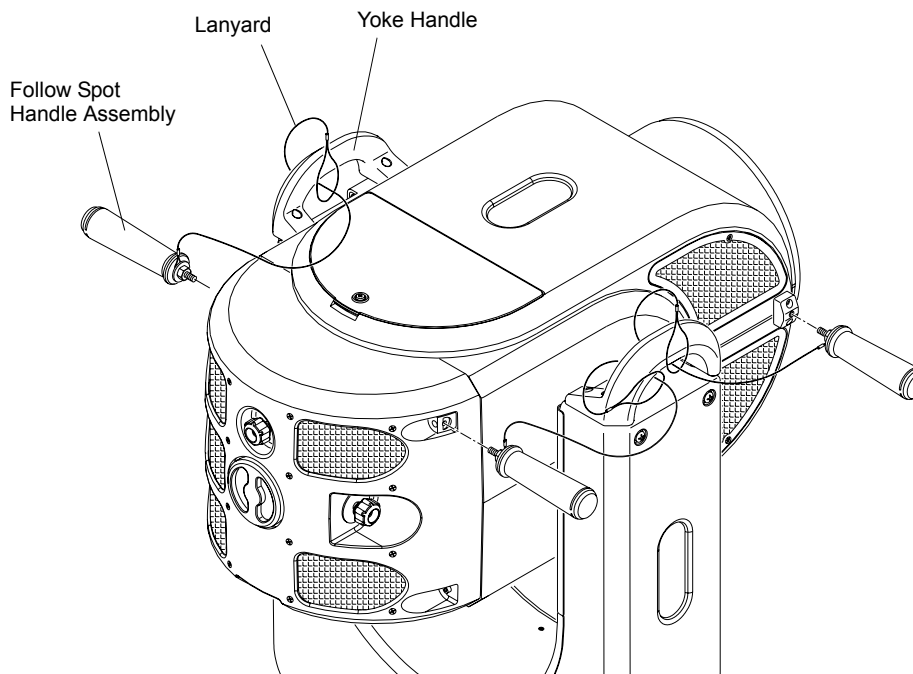

Figure 2-18: Installing Follow Spot Handles - Step 2
- Step 3. For each Handle Assembly, feed Lanyard through yoke handle, then feed Handle through loop as shown in Figure 2-18.